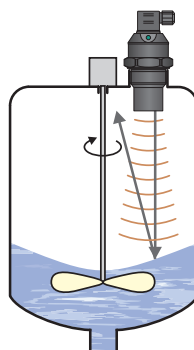

Fig. 12: Strongly stirred surface
- q) False surface reflections of the ultrasonic signal and unreliable operation of the device might result from the mixer's **rotating blades** that ripple the surface level (Fig. 12).